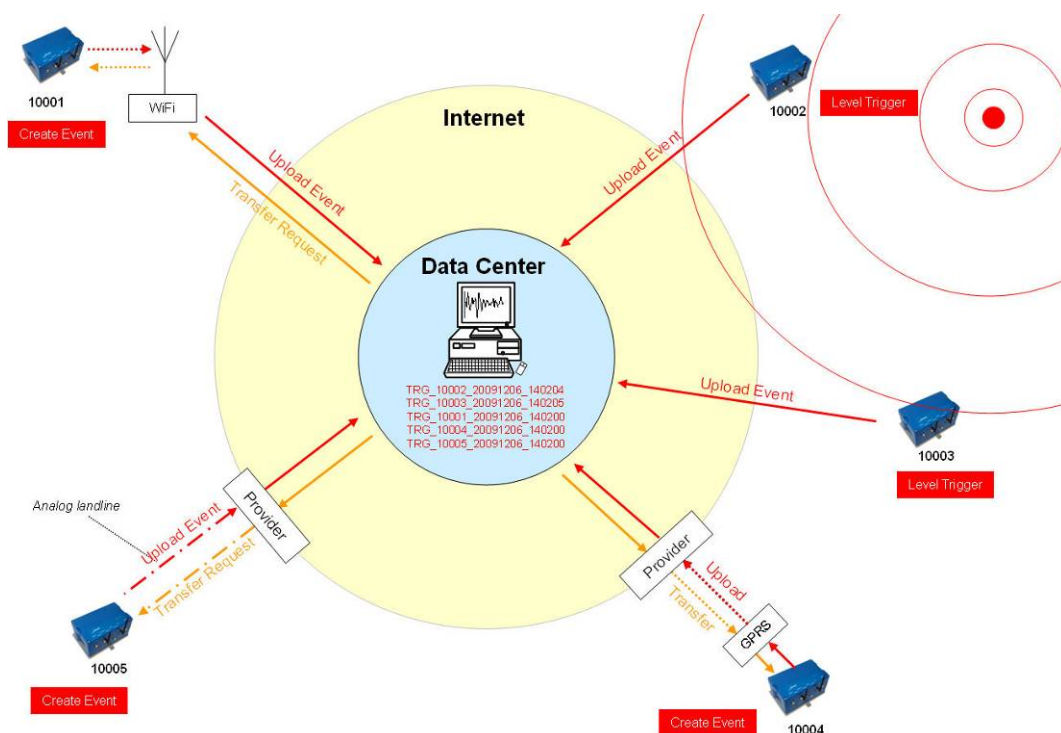

Figure 18. Behaviour on Events: Upload of extracted events
- All instruments will download the request during the next time checking the server (see Figure 18).
- The extracted event file will be uploaded to the data server (see Figure 18).